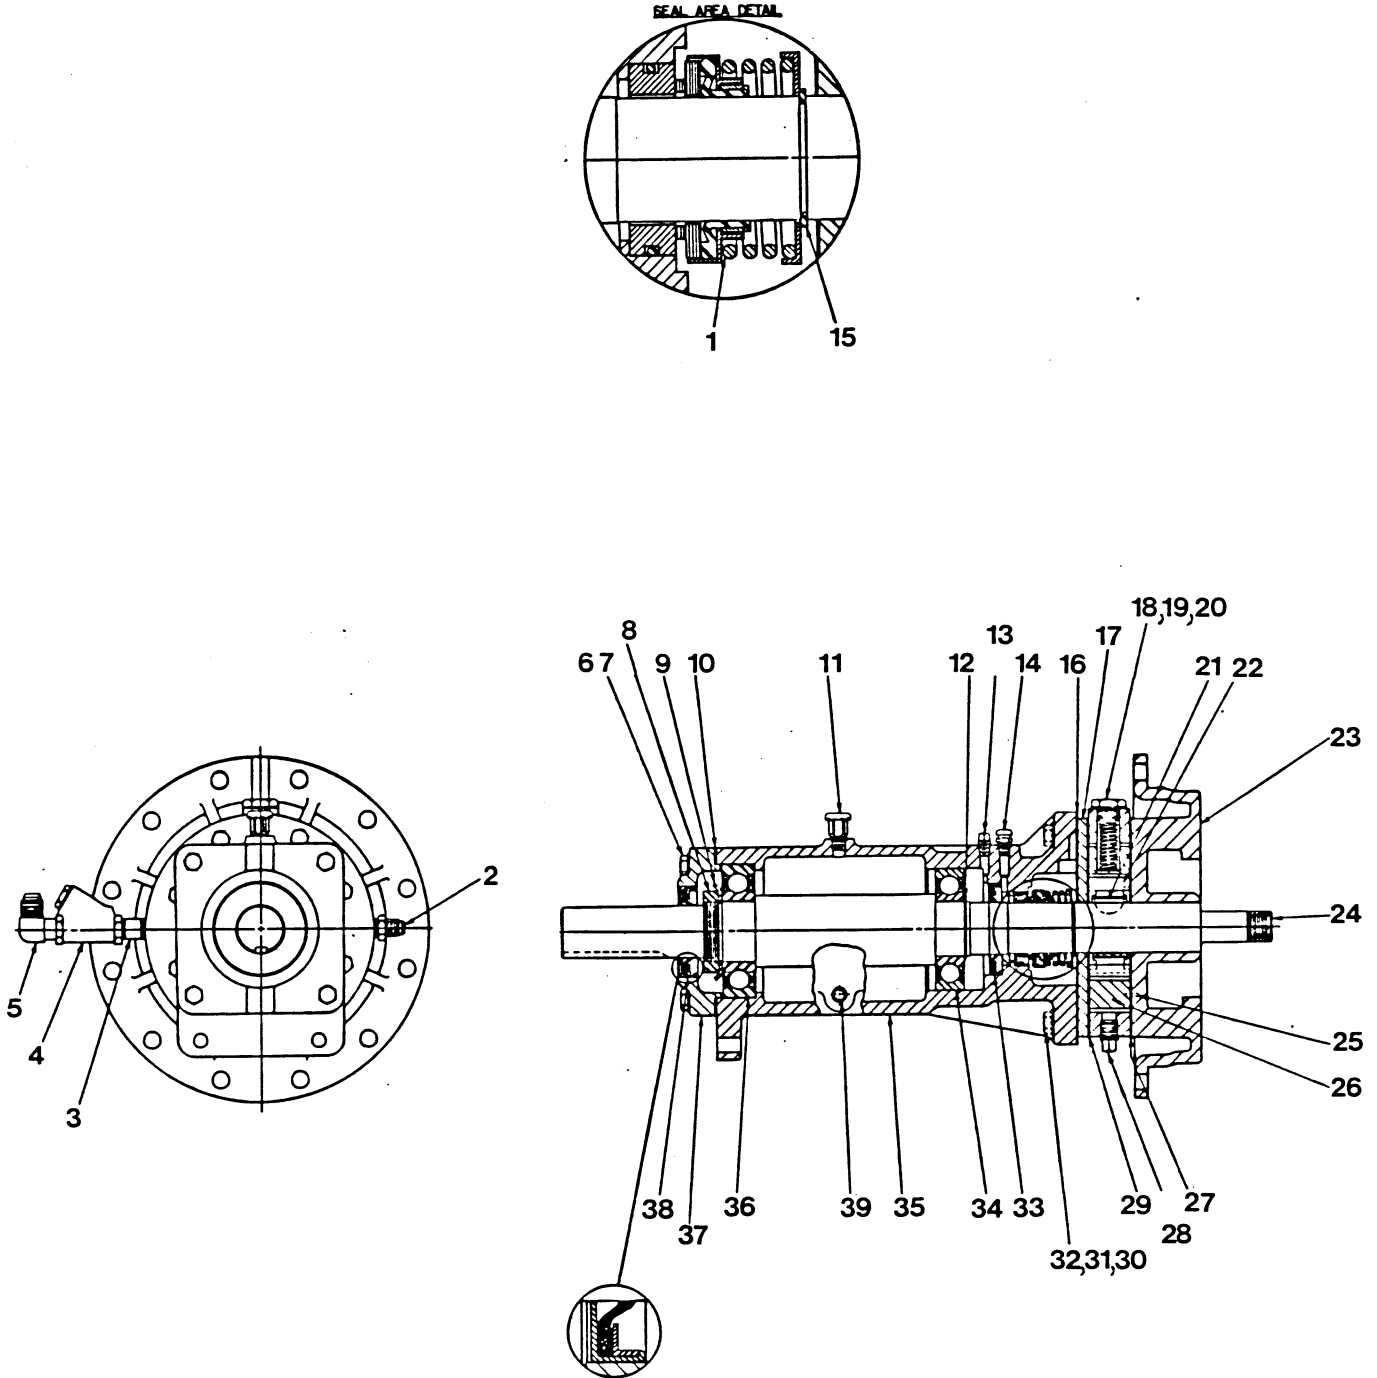
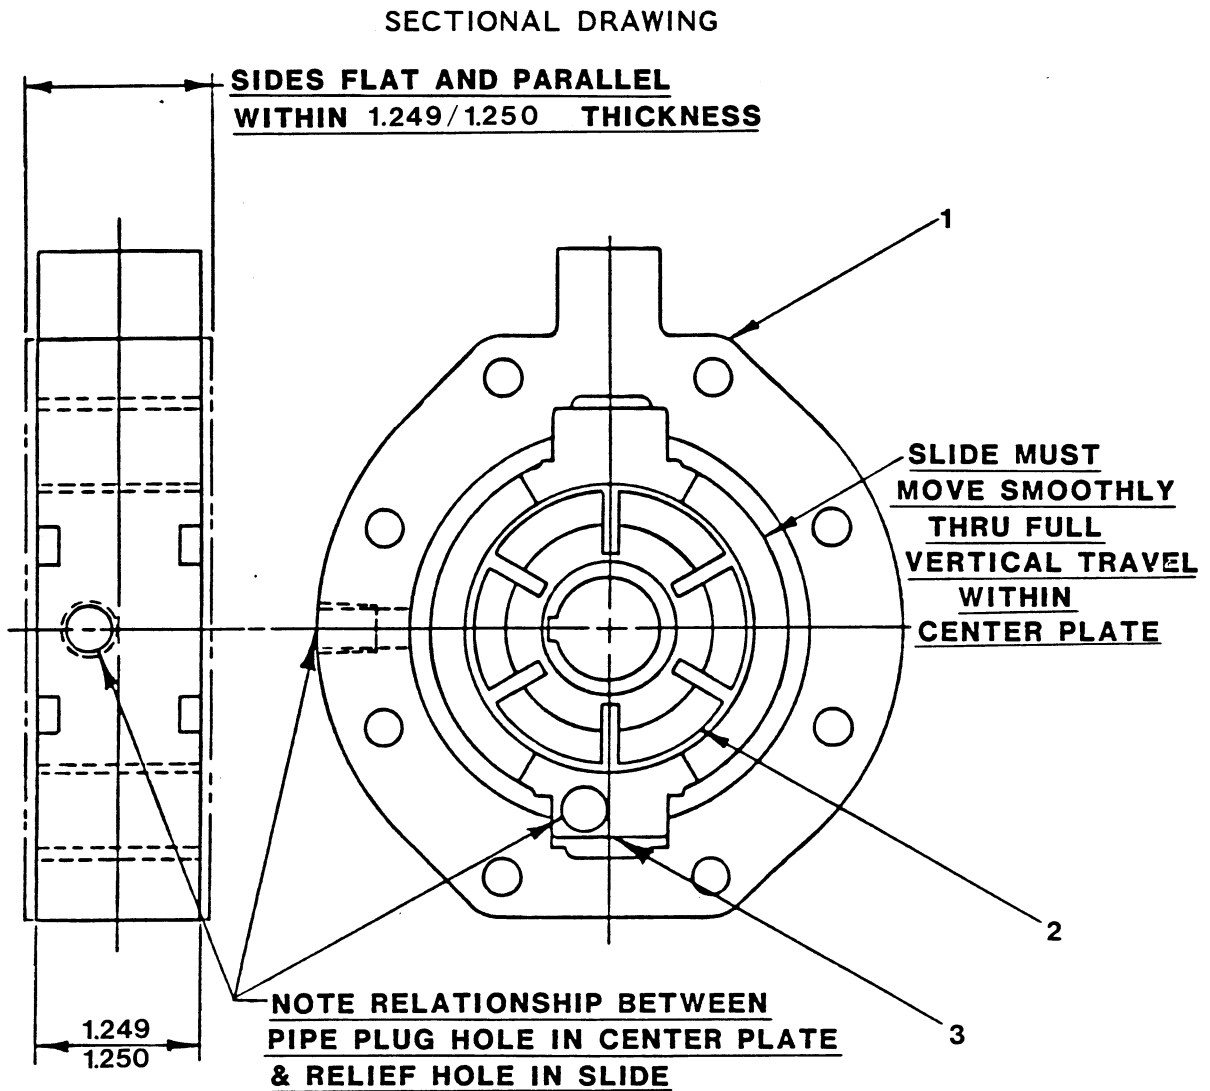

Figure 2. Bearing Housing Assembly R12853-02
Figure 3. Group Grind LK5418
| 4        | BRG HOUSING ASSY(SEE FIGURE 2) | R12853-02     | -----     | 1   | 27         | *CASING GASKET       | R12531      | 20000     | 1   |
| 1        | *SEAL ASSY                  | 25271-921   | -----     | 1   | 26       | GROUP GRIND(SEE FIGURE 3)           | LK05418     | -----     | 1   |
Before attempting to service the pump, disconnect or lock out the power supply to prevent accidental start up. Close all valves in the suction and discharge piping and drain the pump casing and group grind by removing the drain plugs (26, Figure 1, and 28, Figure 2). Clean and reinstall the drain plugs.
Disconnect the suction tube assembly (22) from the pump casing and connector (2, Figure 2), and remove the connector from the center plate (1, Figure 3).
Disconnect the discharge tube assembly (5) from the pump casing and male elbow (4, Figure 2). Remove the pipe nipple, check valve, and male elbow (2, 3, 4 and 5, Figure 2) from the bearing housing.